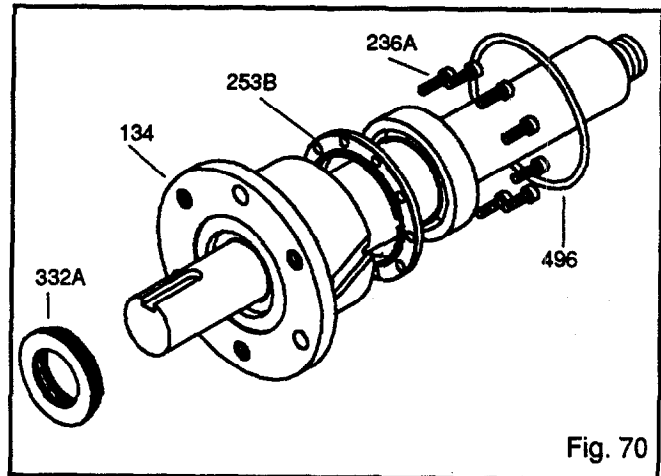

Fig. 70
11. Install clamp ring bolts (236A). Check shaft for free turning. Refer to Table 9 for bolt torque values (Fig. 70).